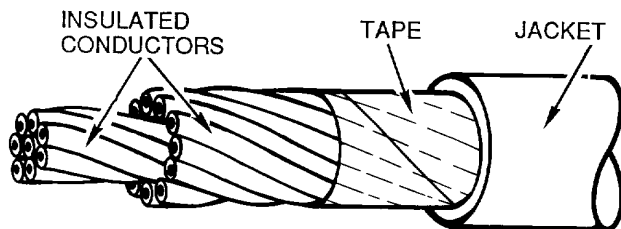

Figure 6. Multiconductor Cable-Twisted Components
38. **DEFINITION.** A multiconductor cable may be described as two or more conductors along with those other components as used in single conductor cable. These may be in any combination of conductors and shield. Multiconductor Cables usually have a large number of identical components and when cabled together must be as round, lightweight, and small as possible in overall diameter, without an abundance of large air spaces or voids. These conditions plus, flexing, physical abuse, and electrical parameters must be taken into consideration in the design and manufacture. The basic construction of a multiconductor cable is shown (Figure 6).